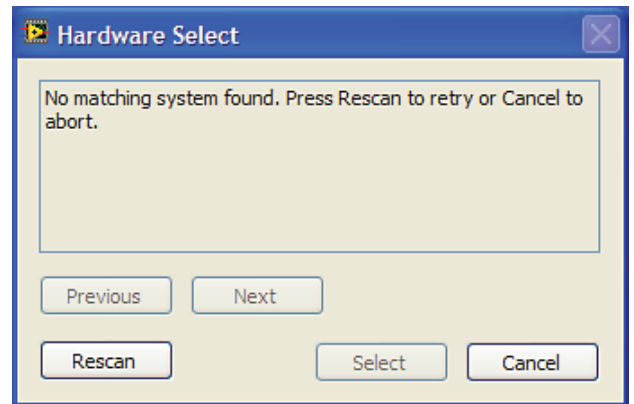

Figure 19. Connectivity Error Alert
2. If the **AD7176-2** evaluation system is not connected to the USB port via the **EVAL-SDP-CBIZ** when the software is launched, a connectivity error displays (see Figure 19). Connect the evaluation board to the USB port of the PC, wait a few seconds, click **Rescan**, and then follow the on-screen instructions.